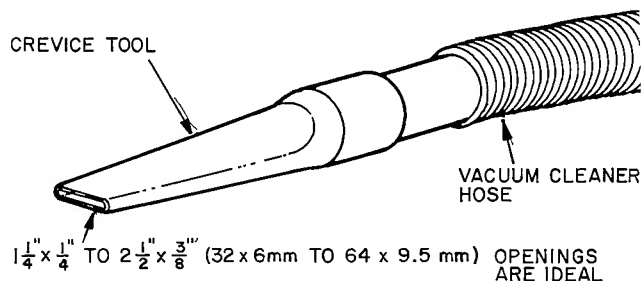

Fig. 8 — Crevice Cleaning Tool
3. Clean coil using vacuum cleaner and its crevice tool (see Fig. 8). Work crevice tool *vertically* making sure tool only touches dirt on fins. To prevent fin damage, do not scrub fins with tool or move tool against fins horizontally.
5. Using garden hose, spray coil vertically downward with a constant stream of water at moderate pressure (see Fig. 8). Keep nozzle at a 15 to 20 degree angle, about 76 mm (3 in.) from coil face and 457 mm (18 in.) from tube. Spray so debris is washed out of coil.